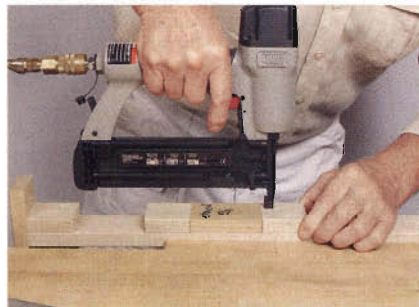

Figure 5. Glue leg blocks, avoiding squeeze-out, then screw or staple into place. Position center leg blocks using the 3/4" spacer.
Step 6: Glue in the leg blocks. There are four blocks to each leg. Two go tight to the corners and two are positioned 3/4" apart by the leg block spacer. (See *Figure 5*.) The aim is to have no glue squeeze-out. For this small area, I find a roller is